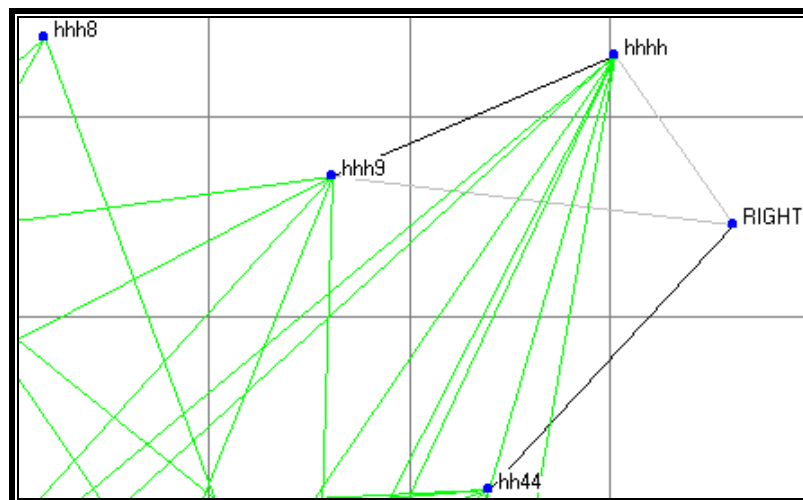

Figure 1-12
- 3) Unprocessed disabled vectors will be highlighted in **gray** color (e.g., hhhh → RIGHT, hhh9 → RIGHT in Figure 1-12 )